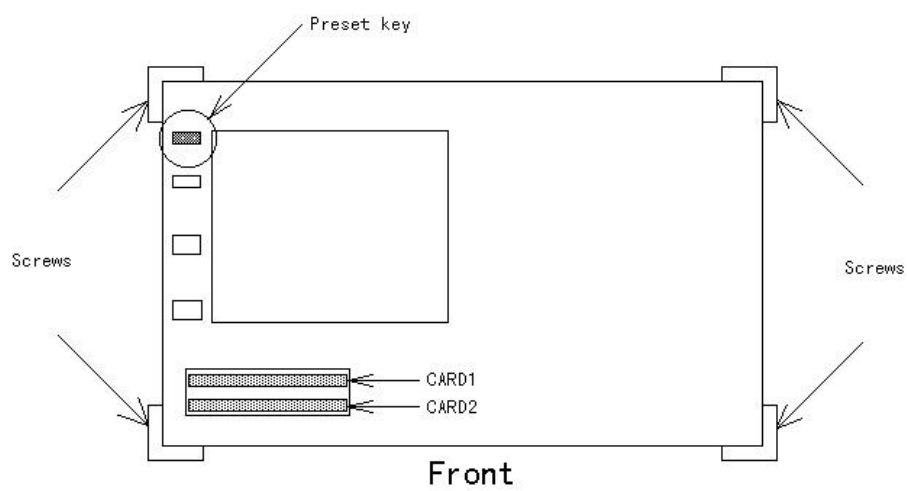

Fig. 2
2. Loose four screws on both side of the front. (Fig. 2)
12. Tight the four screws on the side of the front. (Fig. 2)